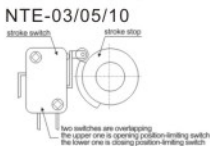
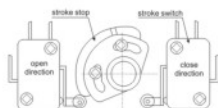

Fig. 5
Fig. 6
- ◆ Making the valve at the open position, loosening bolt of the stroke stop and rotating it as clockwise until touch micro-switch (Full Open), then stop rotate and fix the stroke stop. (Please find following layout drawing of stroke stop and stroke switch-Fig. 5&Fig. 6)